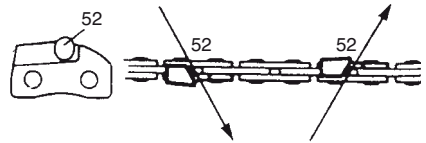

Fig. 41
File (52) cutter on one side of the chain from the inside out. File on forward stroke only. (Fig. 41)